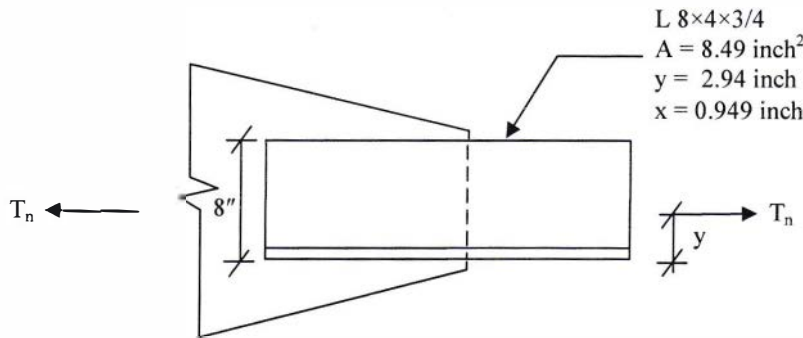

Figure 3
5. Use **AISC-ASD** approach to design the fillet welds to develop the full strength of the angle shown in **Figure 3** so that the effects of eccentricity is minimized. Assume the gusset plate does not govern the design. Use A572 Grade 50 steel ($F_u = 65$ ksi) and a fillet weld size of $\frac{1}{2}$ inch. Neatly sketch the designed connection. (15)